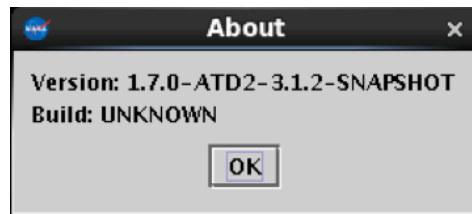

Figure 32. STBO Client version information.
**Step 2:** Click on “About.” A window appears with the version number and the build (Figure 32).